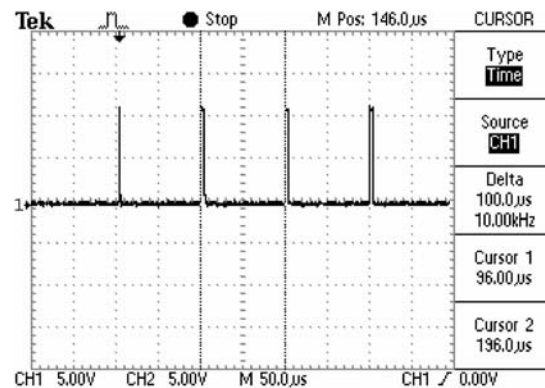

Figure 4-32 Expected Soft-Start Output Pulses
9. Verify from the scope that the Soft-Start output pulses are as shown in Figure 4-32. The Soft-Start should output about 4-6 pulses, each of height 12V± 5%. The pulses should be separated by 0.1ms.